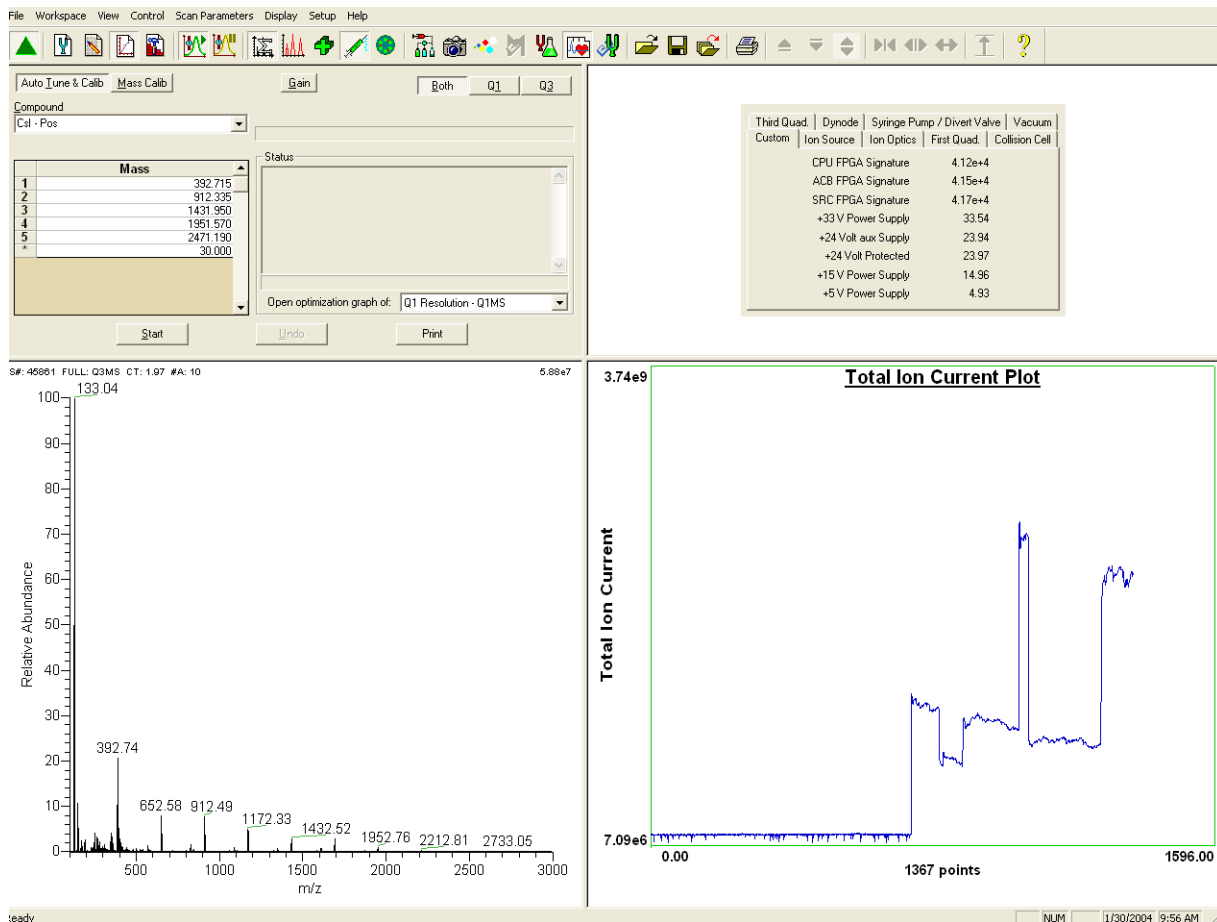

Figure 3-13. System Tune and Calibration workspace, showing cesium iodide signal
1. In Tune Master, click on the System Tune and Calibration Workspace button to display the System Tune and Calibration workspace. See Figure 3-13.
2. In the System Tune and Calibration view in the top left corner of the workspace, select *CsI-Pos* from the Compound list box. This automatically selects the twelve positively-charged cesium and cesium iodide ions to be used for automatic tuning and calibrating. See Figure 3-13.